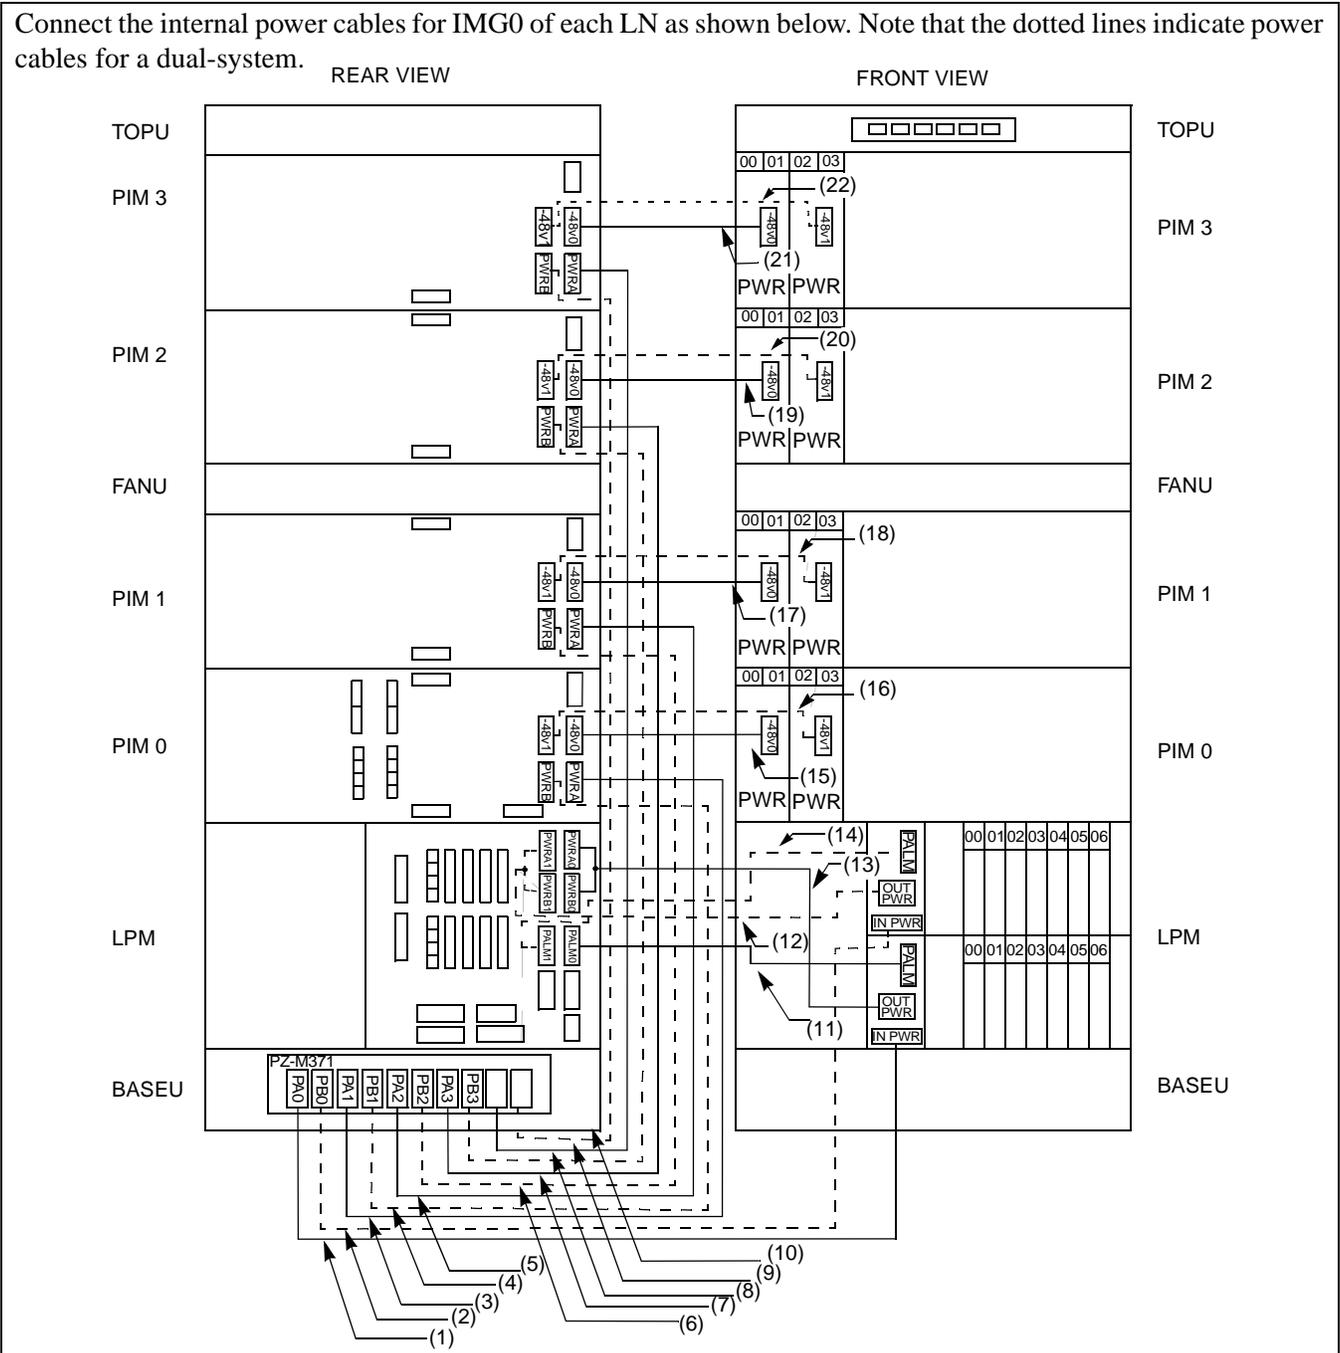

Figure 010-10 Internal Power Cable Connection for IMG0
- Connection of Internal Power Cables for LN _____ Referring to Figure 010-10 through 010-12, connect internal power cables for all the LNs.